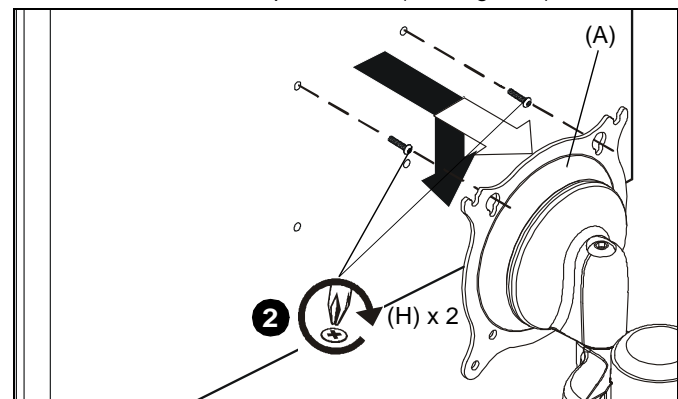

Figure 4
2. Using Phillips screwdriver, carefully install two M4 x 12mm Phillips pan machine screws (H) into the *upper* mounting holes on the display. Thread screws completely into display, then back out 3 complete turns. (See Figure 4)
3. Pick up and align display so that screws (H) (installed on the back of the display in the previous step) fit into the mounting holes on the faceplate. Lower the display firmly into place. (See Figure 4)